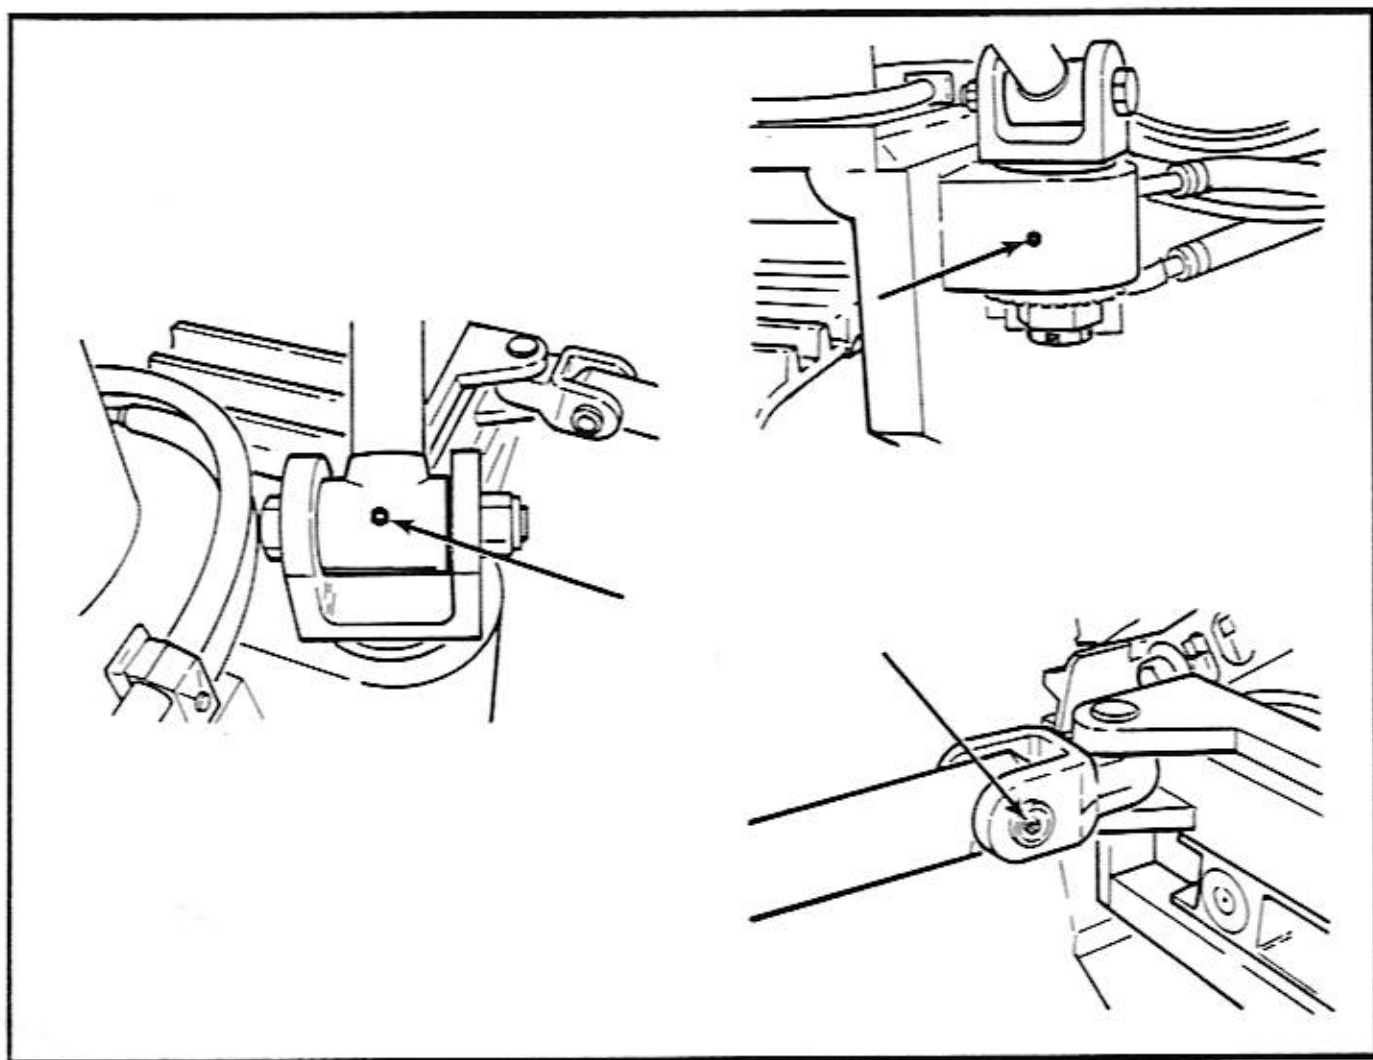

Figure 9-12. Steering Pins
Located under the front and rear of the machine are the steering pins. Lubricate the 20 fittings with two (2) shots of MPG-EP grease. There are fittings at each end of the steering cylinders, tie rods, and the mounting pins. Refer to Figure 9-12.